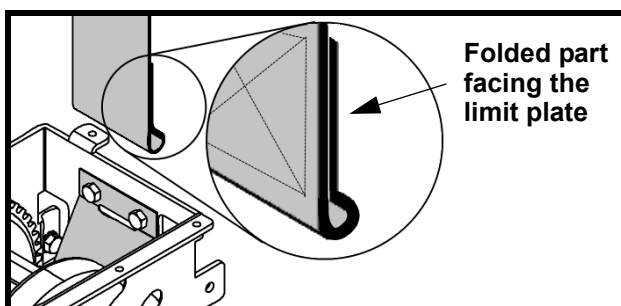
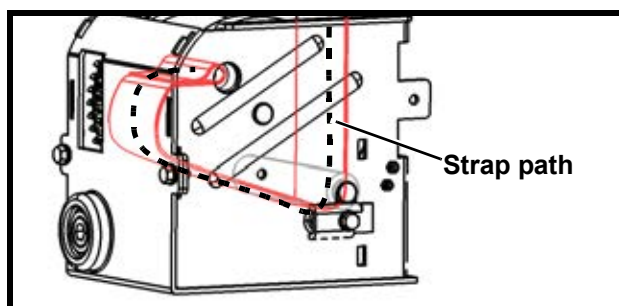
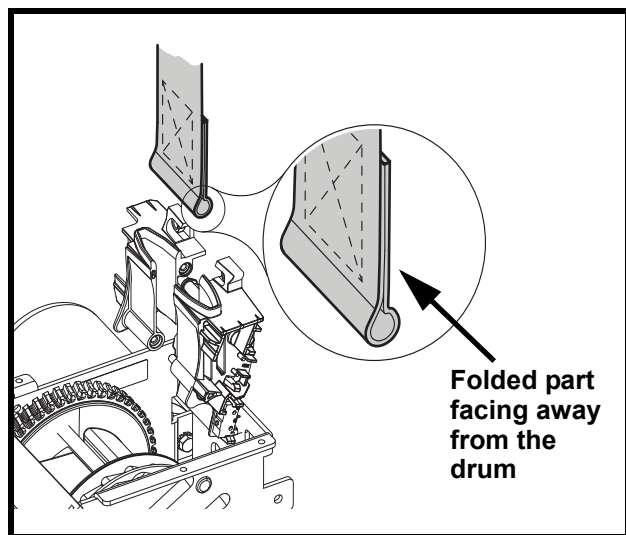

Fig. 14
Fig. 15
Fig. 19
- 6) Guide the new strap between the limit plate and the plastic roller making sure to place the folded part facing the limit plate (see Fig. 14 and Fig. 15).
- 9) Guide the new strap between the two halves of the high switch limit kit. Make sure that the folded part is facing away from the drum (see Fig. 19). See Fig. 15 regarding the strap path through to the drum.